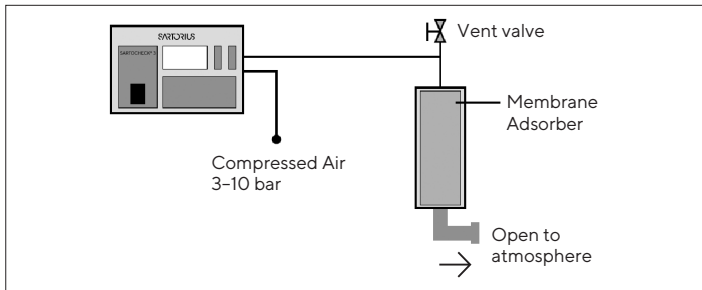

Fig. 8: Set up of diffusion test with Sartocheck®.
- ▶ Install capsule as shown in Fig. 8.